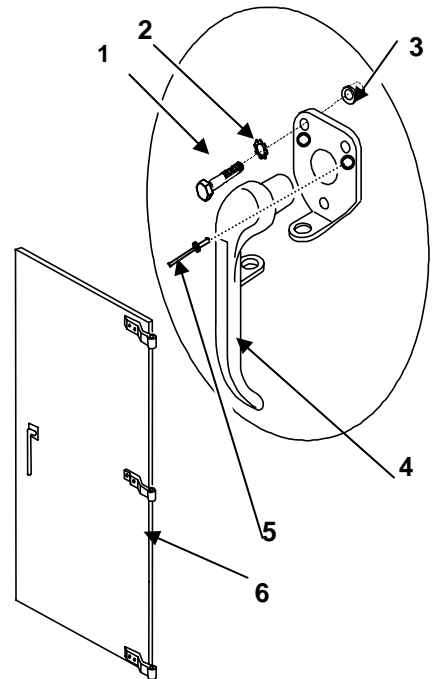

Figure 1. Door Handle.
4. Remove the door handle (figure 1, item 4).
1. Locate handle on the square shaft protruding from the door, and align holes in the handle plate (figure 1, item 3) with the three rivnuts mounted in the door.
2. Install all three machine screws (figure 1, item 1) and lockwashers (figure 1, item 2) that attach the door handle plate (figure 1, item 3) to the door (figure 1, item 6).
3. Install two blind rivets (figure 1, item 5) IAW WP 0033 00.
4. Reapply sealant around periphery of door handle plate (figure 1, item 3), rivets (figure 1, item 5), and screw heads (figure 1, item 1).